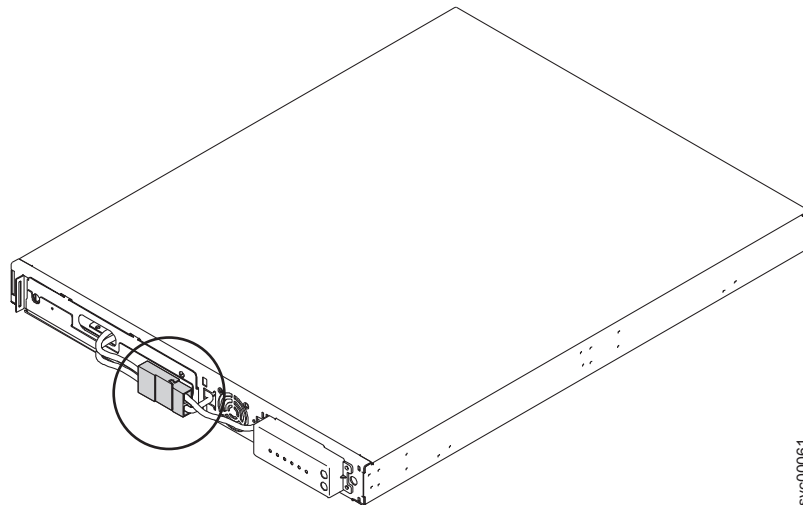

Figure 69. The 2145-1U uninterruptible power supply internal battery connector
5. Connect the internal battery connector (shown in Figure 69). Each end of the keyed connector has two wires: one red (+) and one black (-). Join the black wires and the red wires together.